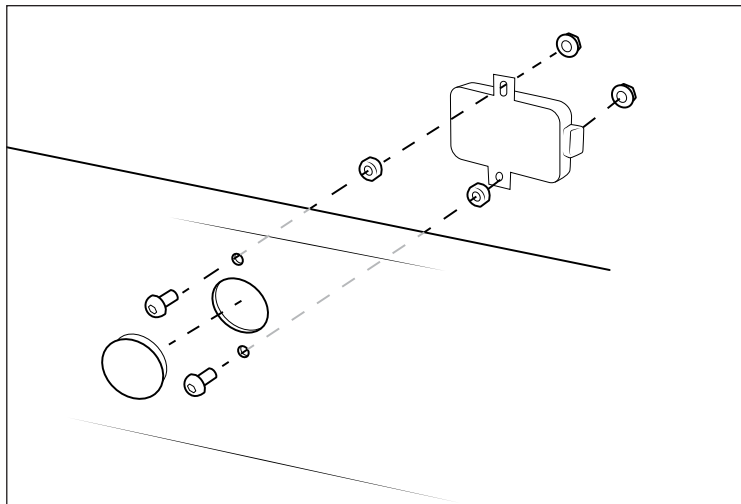

Figure 22
7. If equipped, install Trailer TPMS module onto the center section in the shown location and orientation using two of the supplied M6x20 button head bolts, nylon spacers, and nuts (fig. 22). NOTE: If vehicle is not equipped with module, install the same hardware without the module in place. Finish by snapping 1.5" OD plug into the opening.